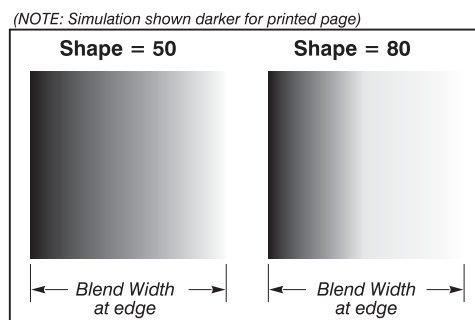

Figure 3.34. “Shape” Examples
- ❑ **Blend Shape** determines the rate of roll-off across the blend width, i.e. how quickly the white levels across the blend change from light and dark. Increasing the *Blend Shape* setting accelerates the rate of change at both extremes so that *less* of the region appears mid-gray (see Figure 3.34). Decreasing the *Blend Shape* setting slows the rate of change so that *more* of the region appears mid-gray. For most applications, this subtle control is best left close to 50.